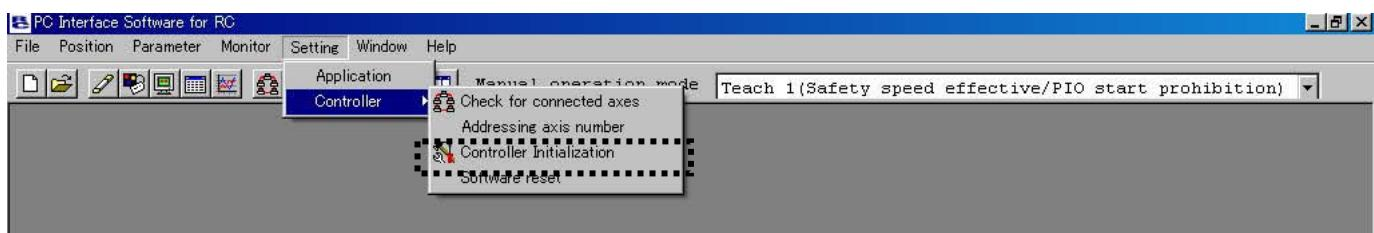

Fig. 16.3 Menu Bar (Parameter Initialization (Factory Default Setting))
- (2) Input the password (5119) on the displayed input password window, then the "Controller Initialization" (factory default setting) menu is displayed (Fig. 16.3).